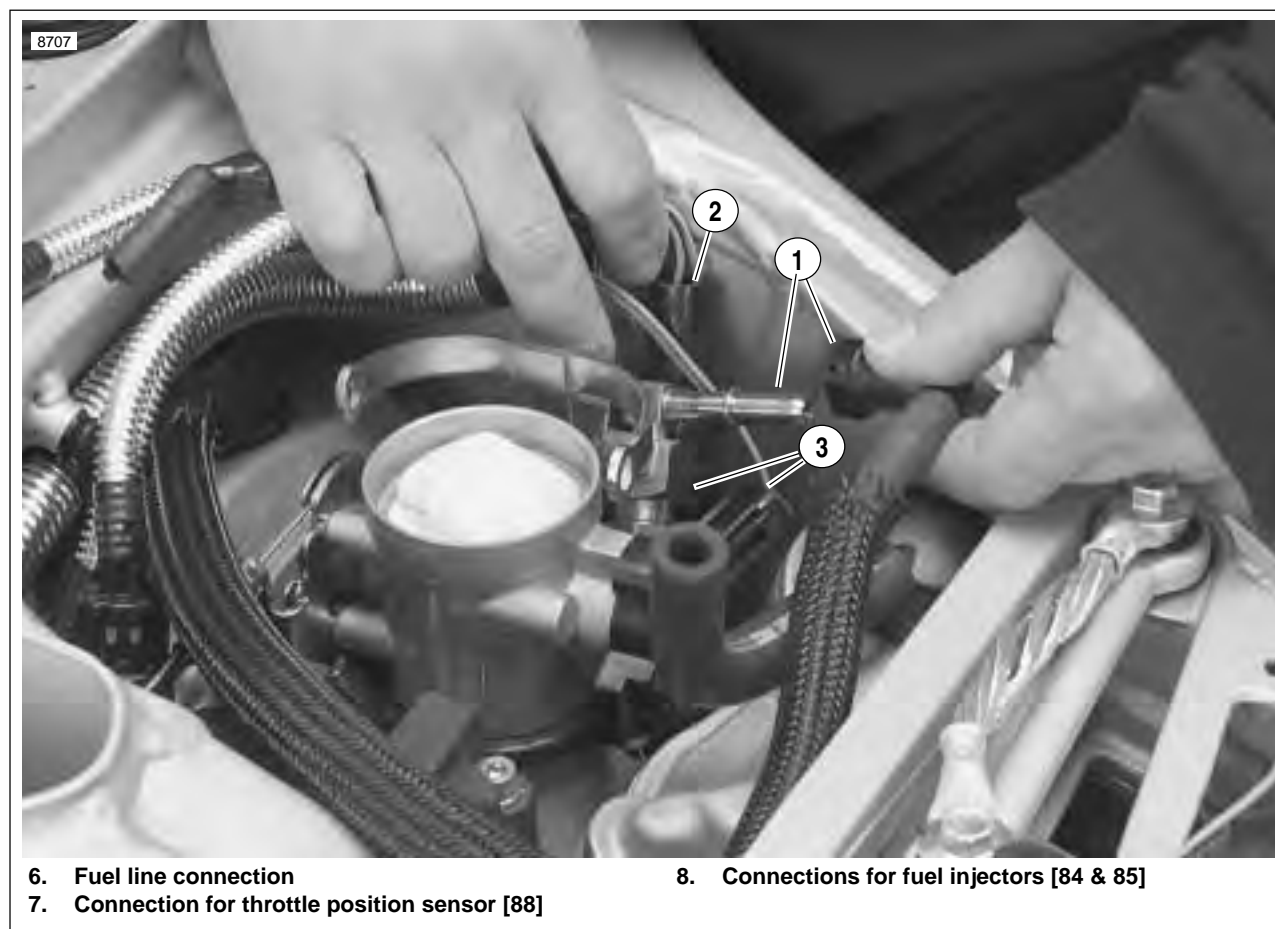

Figure 3-16. Fuel Line and DDFI Electrical Connections
6. See Figure 3-16. Disconnect fuel line.